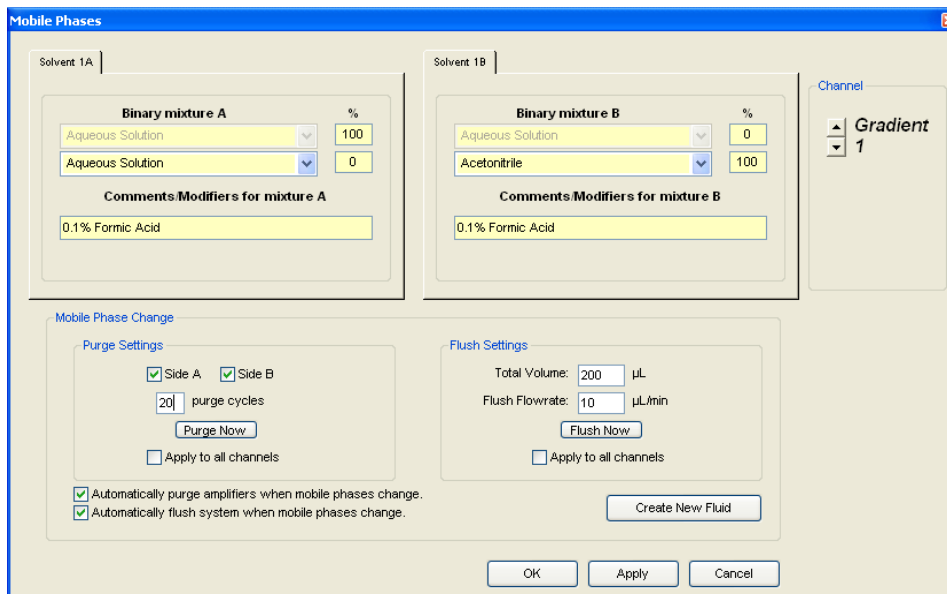

Figure 3-5 Mobile Phases Dialog—Advanced Options
12. Click **More** to display the Purge and Flush settings groups (Figure 3-5).